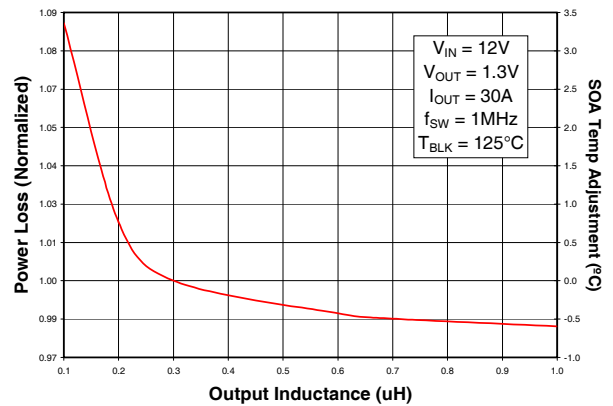

Fig. 6: Normalized Power Loss vs. Inductance
- (Fig. 6) Normalized power loss for inductor value ≈ 1.02
- (Fig. 6) Normalized SOA Temperature for inductor value $\approx 0.75^{\circ}\text{C}$